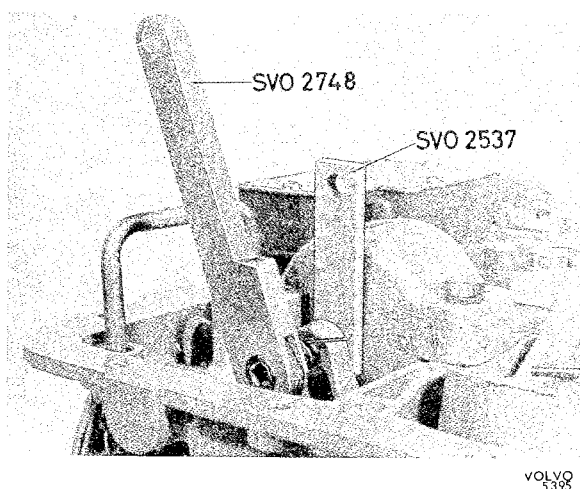

Fig. 4-114. Front brake band adjustment
26. Place the spacer bar 2537 between the bolt and cylinder, see Fig. 4-114. Tighten the bolt with torque wrench 2748 until the ratchet handle clicks out. This should be at a torque of 115 Ncm (10 lbin).